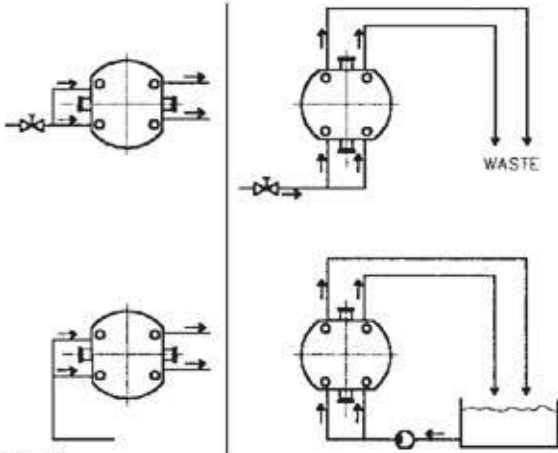

Fig 3
- An open flow low pressure flushing system where the flushing medium is re-circulating or going to waste. (See fig 3) This type of system can be used in the same applications as a single flushed mechanical seal. (See data sheet 6.29).